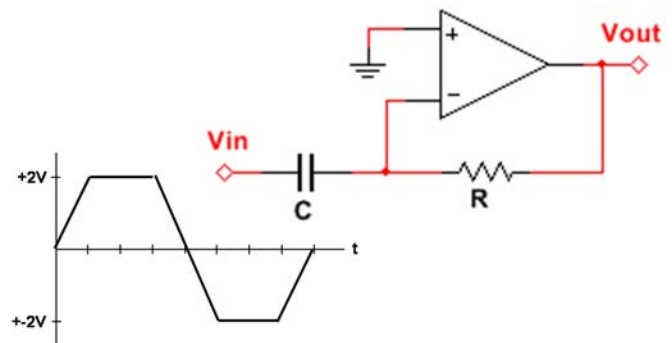

Fig. 4: Differentiator circuit using an op amp.
(b) Let $R = 100 \text{ kohm}$ and $C = 100 \text{ nF}$. Suppose V_{IN} is a “trapezoidal wave” with a 4V peak-to-peak amplitude and 10 Hz frequency (Fig. 4). Sketch the input and output voltages over a 200 ms duration. Assume $V_{OUT} = 0$ as an initial condition. Make sure to label important features!
- 7) We've seen how a Class B push-pull stage (by itself) suffers from crossover distortion for *analog* signals. However, totem-pole stages work extremely well for *digital* signals. Suppose V_{IN} is a 25% duty cycle square wave (see Fig. 4) that alternates between $+13V$ (HIGH) and $-13V$ (LOW). These voltage levels are typical of RS-232 communication lines. The load is $R_L = 75\text{ ohm}$. The transistors are 2N4401 and 2N4403.